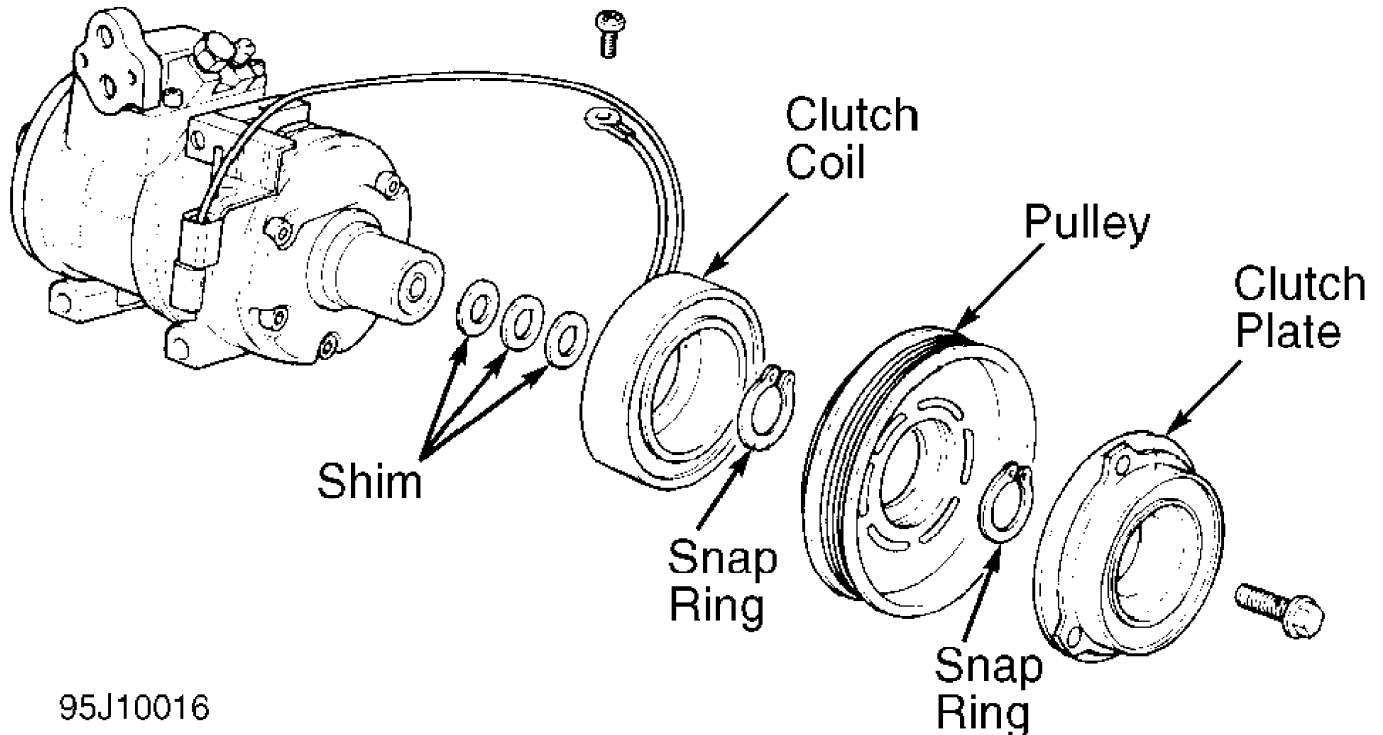

Fig. 3: Nippondenso 10PA17C 10-Cyl. Compressor (Camry & Land Cruiser)
1) Remove clutch plate and pulley. Remove shim(s) from shaft. Remove clutch coil if necessary. Remove felt and felt retainer (if equipped). See Figs. 3 and 4. Place shaft key remover on shaft and turn to remove key.